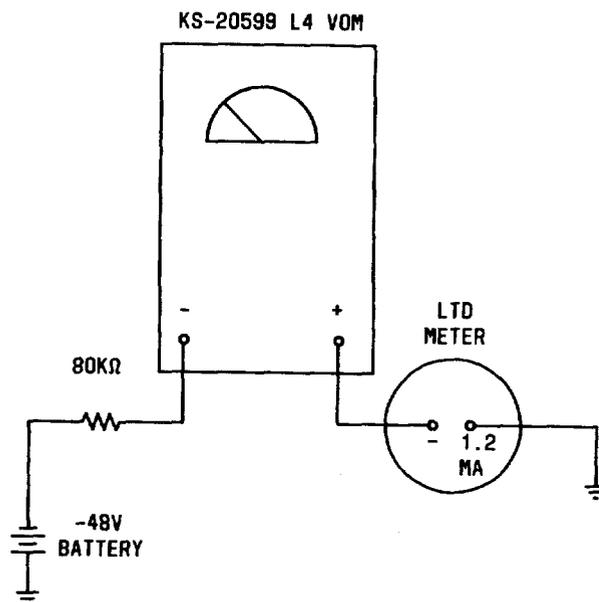

Fig. 2—Milliammeter Calibration Circuit — 1.0 mA Connection
| 21 | Connect the KS-20599 L4 VOM, set to the 1A dc range, to the LTD meter and 80K ohm resistor as shown in Fig. 2. | |
- 23 Replace the 80K ohm resistor of Fig. 2 with a 48K ohm resistor. KS-20599 L4 VOM indicates approximately 1.0 mA. LTD meter indicates within ± 0.010 mA of the KS-20599 L4 VOM reading.